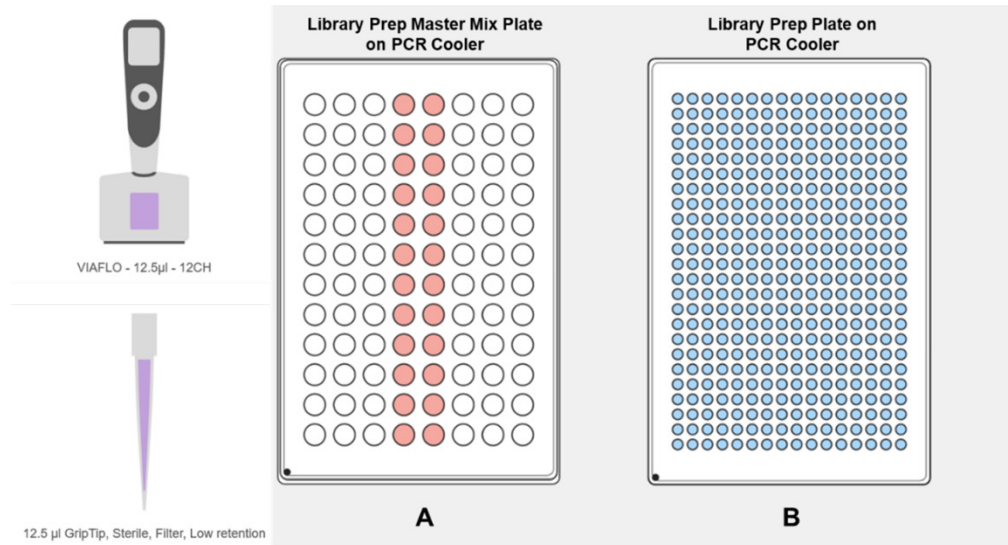

Figure 27: RO384_12_LibAmp.
- Place the cold 96–well and 384–well PCR cooling blocks onto the ASSIST PLUS deck at Positions A and B, respectively (Figure 27).
- Place the Library Prep Master Mix Plate on the 96–well PCR cooling block in Position A and place the Library Prep plate on the 384–well PCR cooling block in Position B with position A1 of both plates in the bottom left corner, as indicated by the dot in Figure 27.